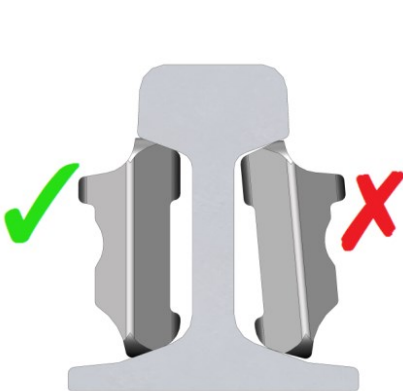

Figure 2 – Fishplate Fitment Diagram
- Fishplates should be located properly within the web of the rail. [Fig.2]